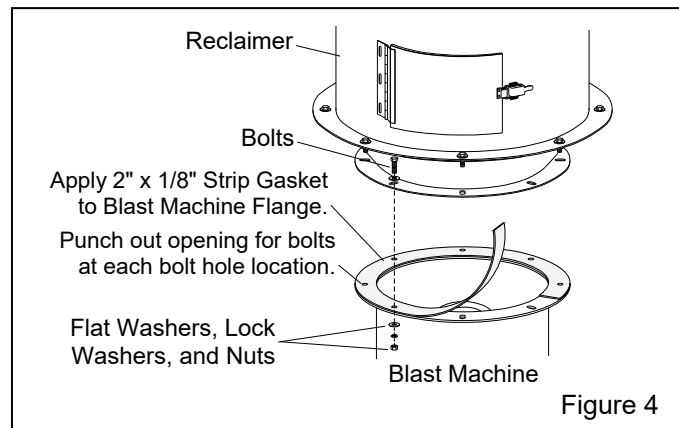

Figure 4
2.2 Assemble Blast Machine and Reclaimer Figure 4